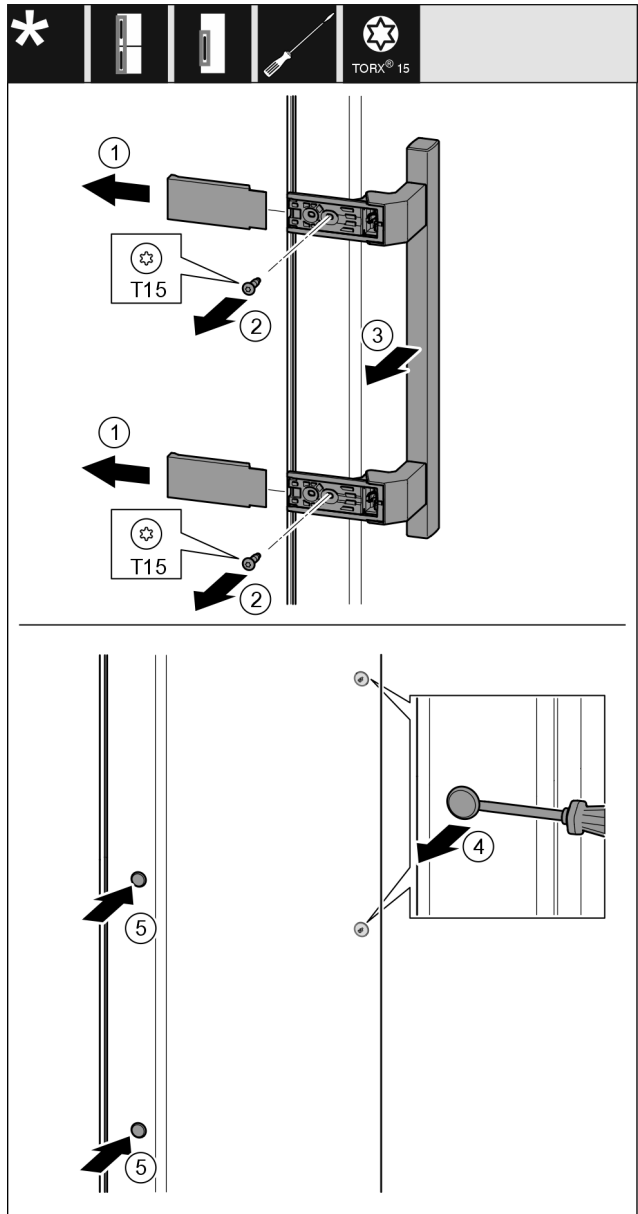

Fig. 52
- Remove the cover Fig. 52 (1).
- Unscrew screws Fig. 52 (2) with screwdriver.
- Remove the handle Fig. 52 (3).
- Use a slotted screwdriver to lift the side plug Fig. 52 (4) carefully and pull it out.
- Re-insert the plug Fig. 52 (5) on the other side.